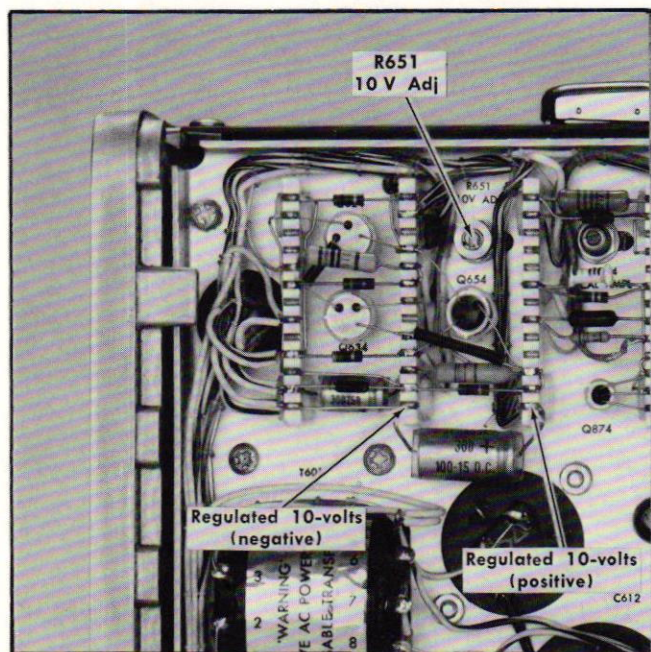

Fig. 5-2. Location of regulated 10 volts test points and adjustments (left side).
b. Connect the precision DC voltmeter to the regulated 10-volt test points shown in Fig. 5-2. Observe the polarity shown.
- d. ADJUST—10 V Adj. R651 (see Fig. 5-2) for a meter reading of 10 volts.
- e. Connect the precision DC voltmeter to the regulated 10-volt test points shown in Fig. 5-2. Observe the polarity shown.
- e. CHECK—LOW BATTERIES indicator light comes on when power supply output voltage is 11.0 volts,  $\pm 0.2$  volt as indicated by precision DC voltmeter. Also check the voltage at the regulated 10-volt test points (see Fig. 5-2) with the precision DC voltmeter; 10 volts,  $\pm 50$  millivolts.